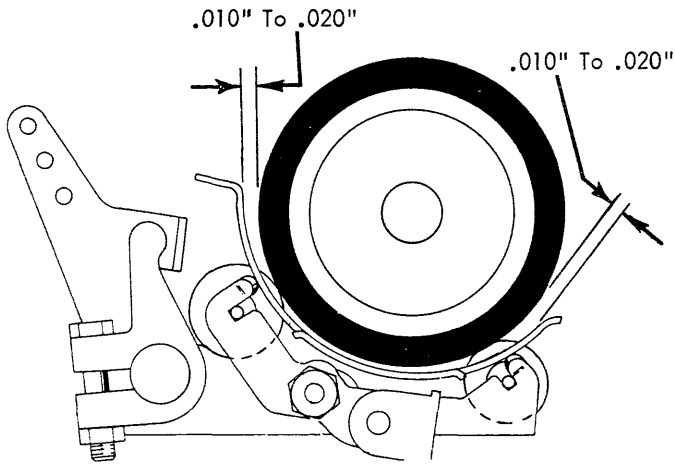

FIGURE 192. Deflector Adjustment
8. Deflector - Position the deflector by forming the deflector supporting tabs on the front and rear feed roll arms so that a clearance of .010" to .020" exists between the front and rear of the deflector and the platen (Fig. 192). Three tab cards inserted between the platen and the deflector (at the front and rear) should provide a slight drag. No drag should be felt when one tab card is inserted.